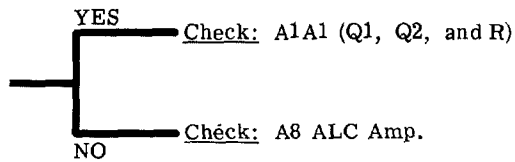
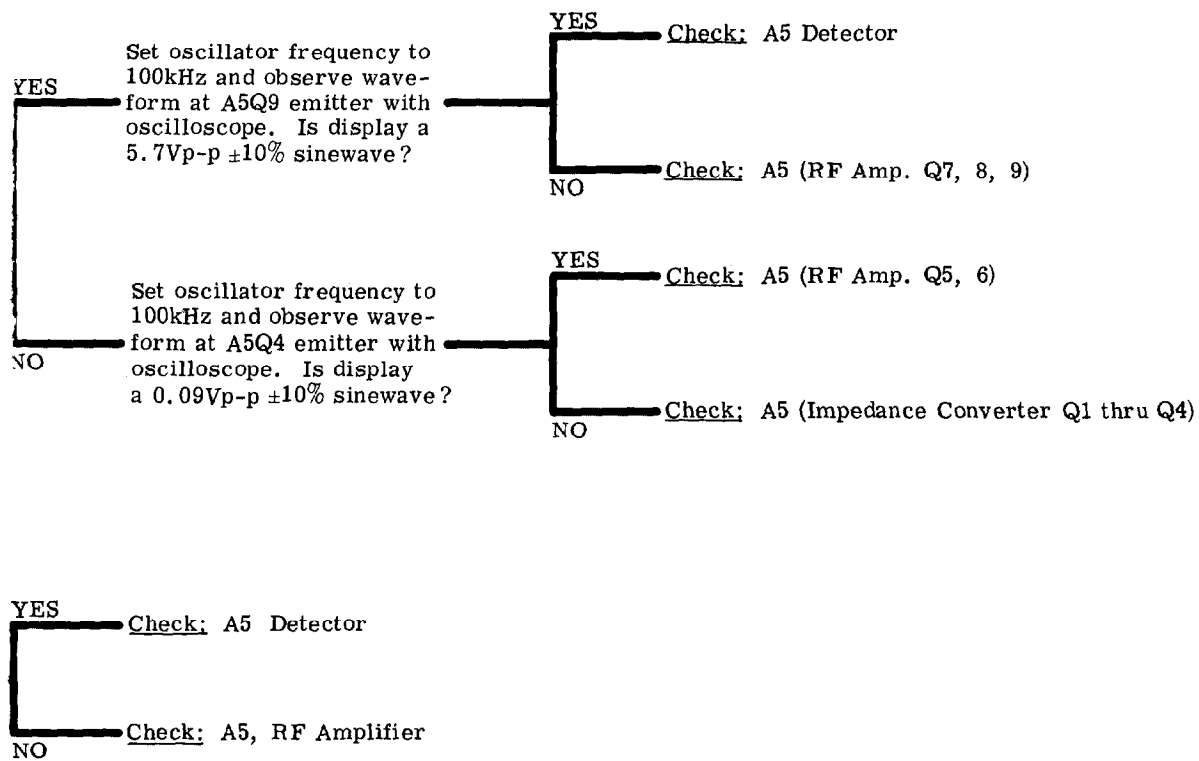

Figure 5-12. Troubleshooting, Oscillator Section
Figure 5-13. Troubleshooting, Voltmeter Section
- d. RF Voltmeter reading should be within $30\text{mV} \pm 0.9\text{mVrms}$ at any frequency setting. If this check fails, troubleshoot oscillator section and follow Figure 5-12 Troubleshooting Tree. If OK, troubleshoot voltmeter section and follow Figure 5-13 Troubleshooting Tree.